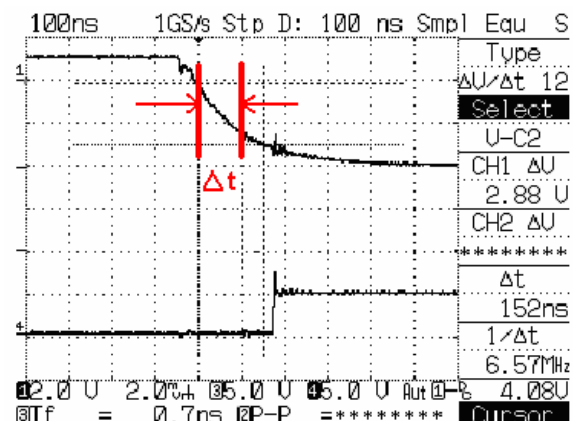
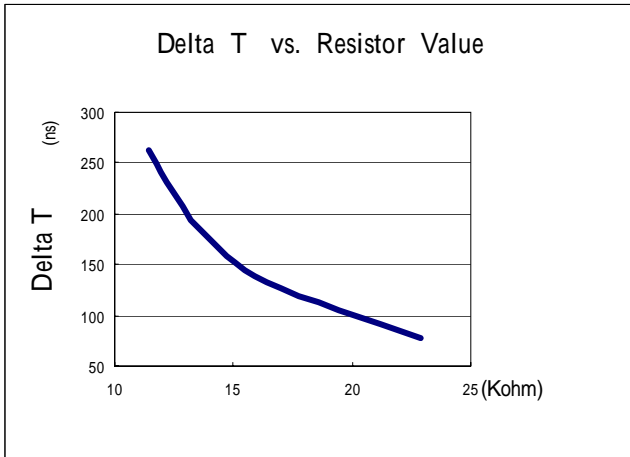

Fig.14
Fig.15
Step 7: Timing adjustment. The Timing adjustment should be performed under light load circumstance. A variable resistor, 0~100K $\Omega$ , is connected from Timing pin to VDD and adjust the variable resistor. Changing the resistor value will change dv/dt slope Fig.14. This resistor value normally is from 10Kohm to 30Kohm. The typical relation between resistor value and the Delta T is shown in Fig.15.